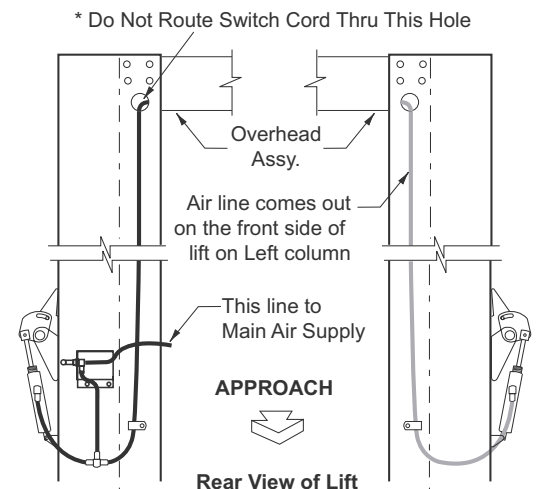

Fig. 14
NOTE: Route Power Unit hose inside columns using slots provided at column base, Fig. 9. Route Overhead Hose in column channel on outside of column, Fig. 9, Fig. 14. Overhead hose goes through holes beside sheaves in the overhead weldment, Fig. 7b, Fig. 9.
- K) Install air line from union tee to left column air cylinder. Fig. 14.